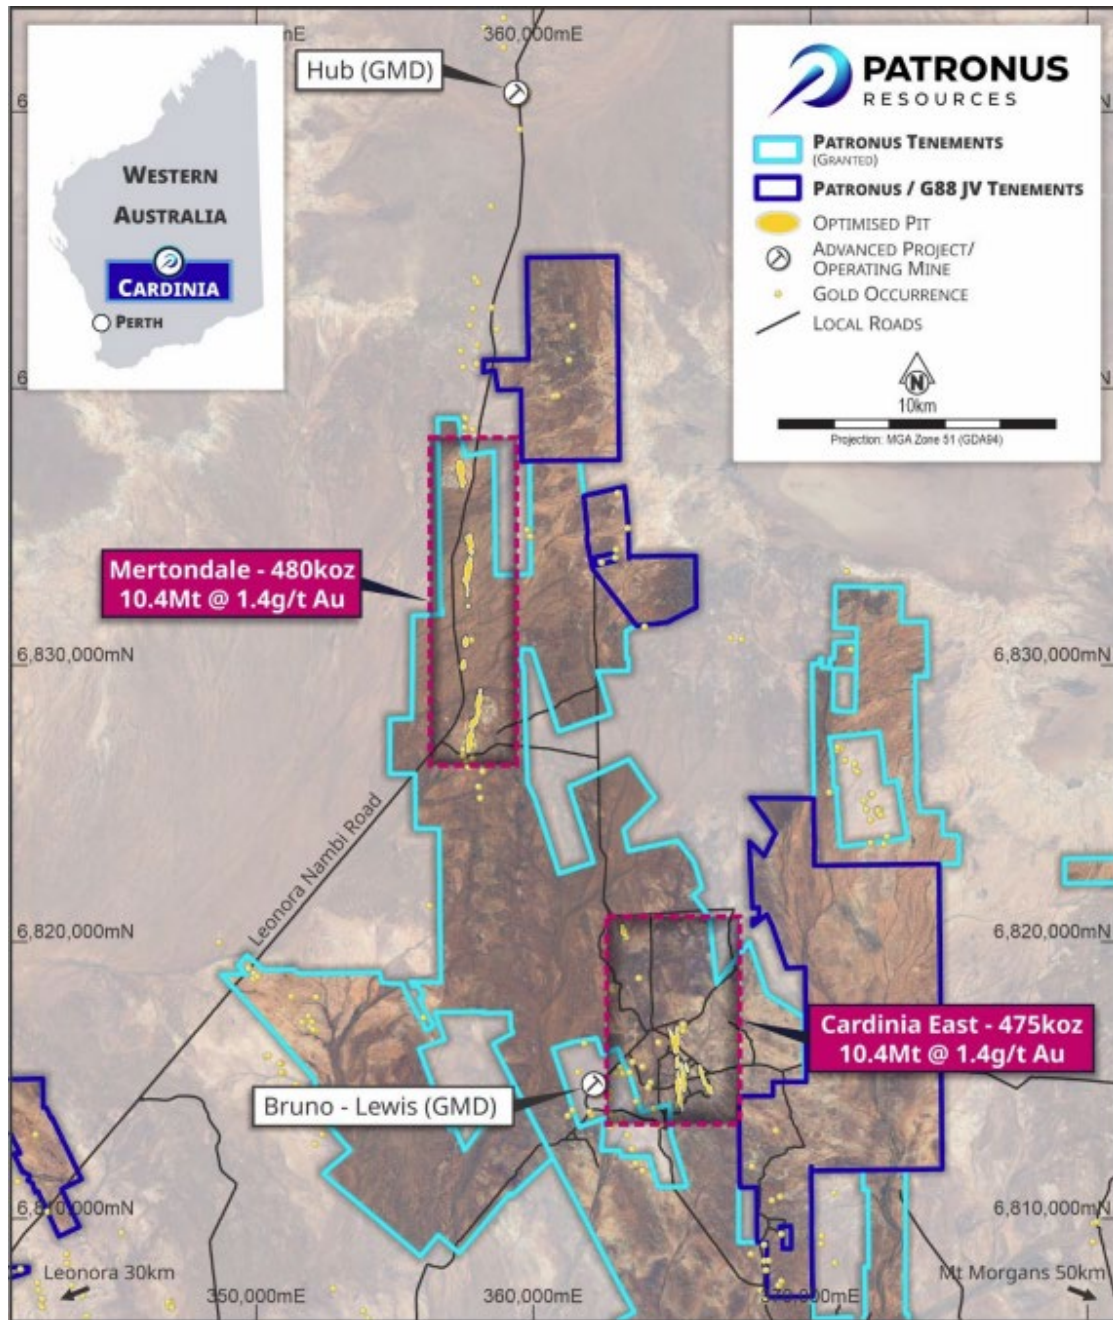

Figure 1 – Location overview of the Mertondale and Cardinia East Resources at the Cardinia Gold Project, Leonora.
Patronus Resources Limited (ASX: PTN) is pleased to report assay results from follow-up Reverse Circulation (RC) drilling completed at the Mertondale Project, part of the Company's Cardinia Gold Project located east of Leonora in Western Australia (Figure 1).